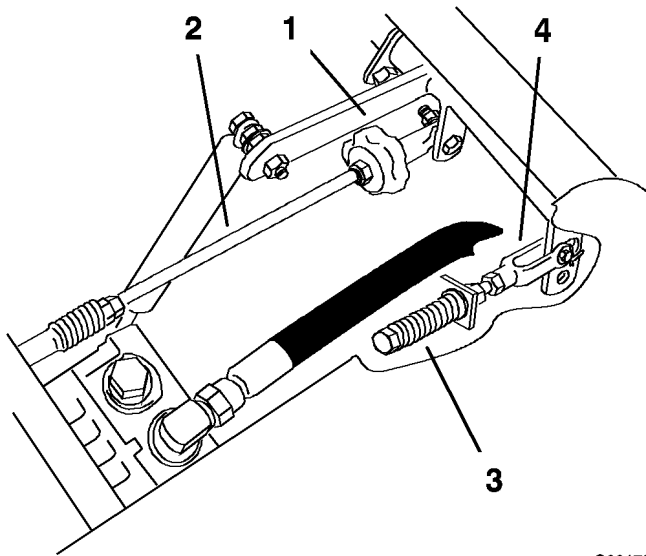

Figure 61
2. Adjust the pump rod length by rotating the knob, in the appropriate direction, until the wheel is still or slightly creeping in reverse (Figure 61).